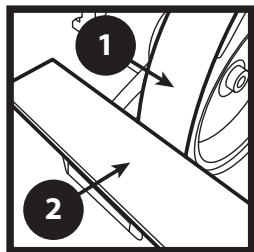

FIGURE 1
1. Ensure that the gap (nip point) between the face of the abrasive belt and work rest is adjusted so that your work piece will not pass through this gap. (Figure 1)